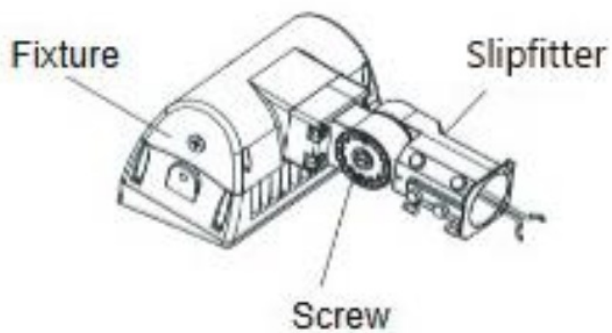

Figure 2.1
- **Step 2.** Connect the line wire through the slipfitter to the fixture wire, black to black, white to white, and green to green. Use only UL-listed wiring. Purple and pink wires are 0-10V (low voltage) dimming leads. Connect to low voltage dimming wiring only. Stuff wiring into the pole (Figure 2.1)